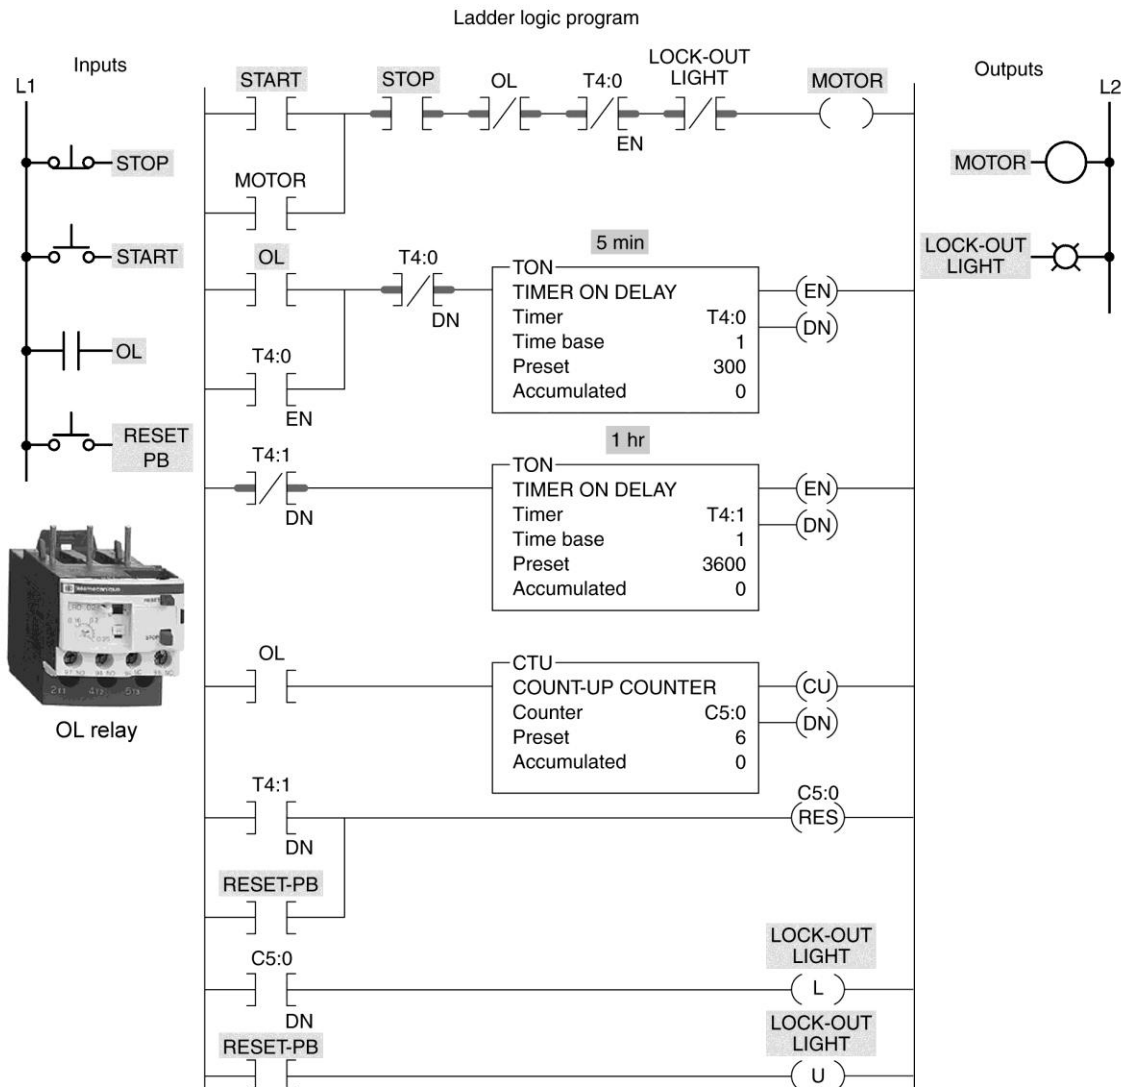

Figure 8-18 Motor lock-out program for assignment 12.
12) The motor lock-out program shown in Figure 8-18 is described in the text. Prepare an I/O connection diagram and ladder logic program for the application. Use addresses that apply to your PLC. Enter the program into the PLC, and prove its operation.